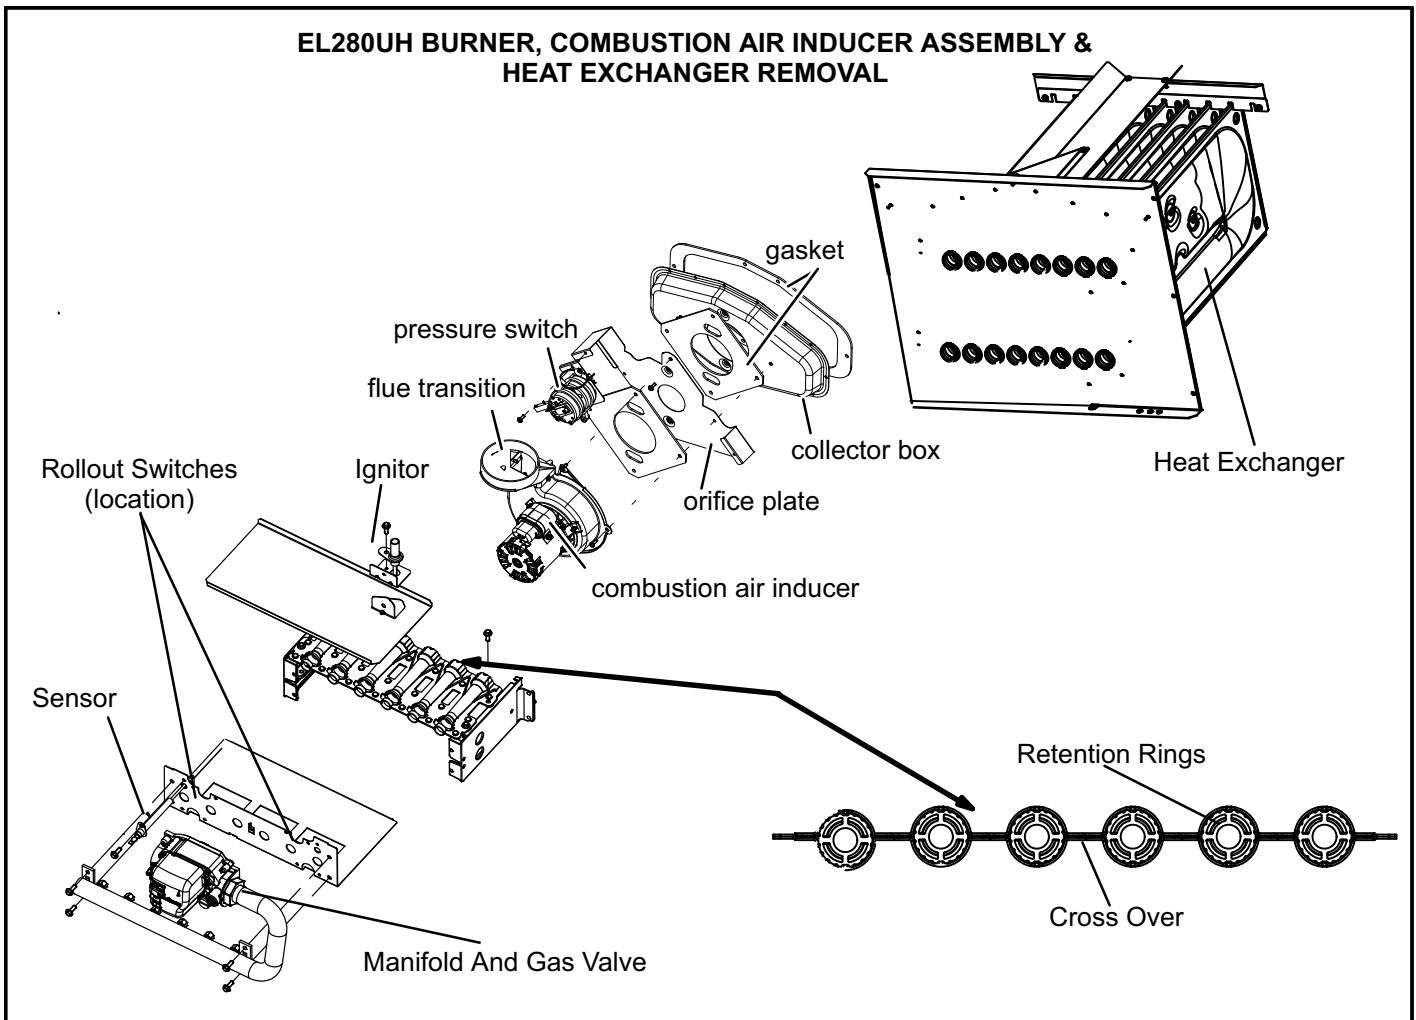

FIGURE 36
- 12 - To clean burners, run a vacuum cleaner with a soft brush attachment over the face of burners. Visually inspect inside the burners and crossovers for any blockage caused by foreign matter. Remove any blockage. Figure 36 shows burner detail.